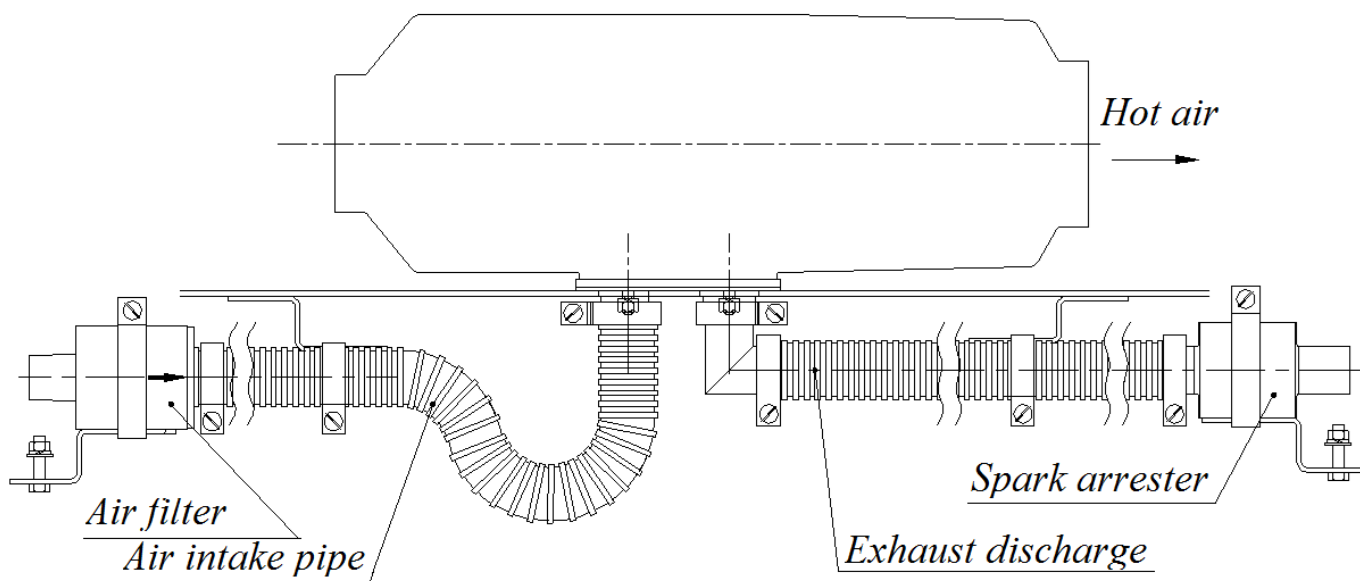

Fig.9a Assembly of the exhaust pipe and the spark arrester
5.3 Assembly of the exhaust pipe and the spark arrester (Fig. 9a).